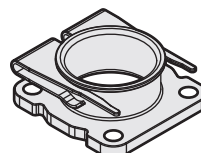

Fig. 3
- ① The top surface of the clip should contact the collar. (Fig. 3)